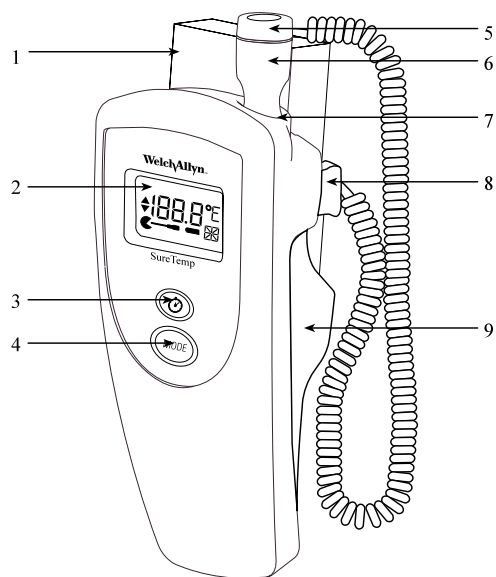

Figure 1
5. After the temperature measurement is complete, remove the probe from the patient, then eject the probe cover by firmly pressing the ejection button on the probe. (Figure 1).
10. After the temperature measurement is complete, remove the probe from the patient's axilla, then eject the probe cover by firmly pressing the ejection button on the probe (Figure 1).
- After the temperature measurement is complete, remove the probe from the patient, then eject the probe cover by firmly pressing the ejection button on the probe. (Figure 1)
1. Install the supplied Oral/Axillary probe or optional Rectal probe by inserting the latching plug on the end of the coiled cord into the plug receptacle on the unit. The plug snaps into place and cannot be removed without depressing the latch. (Figure 1).